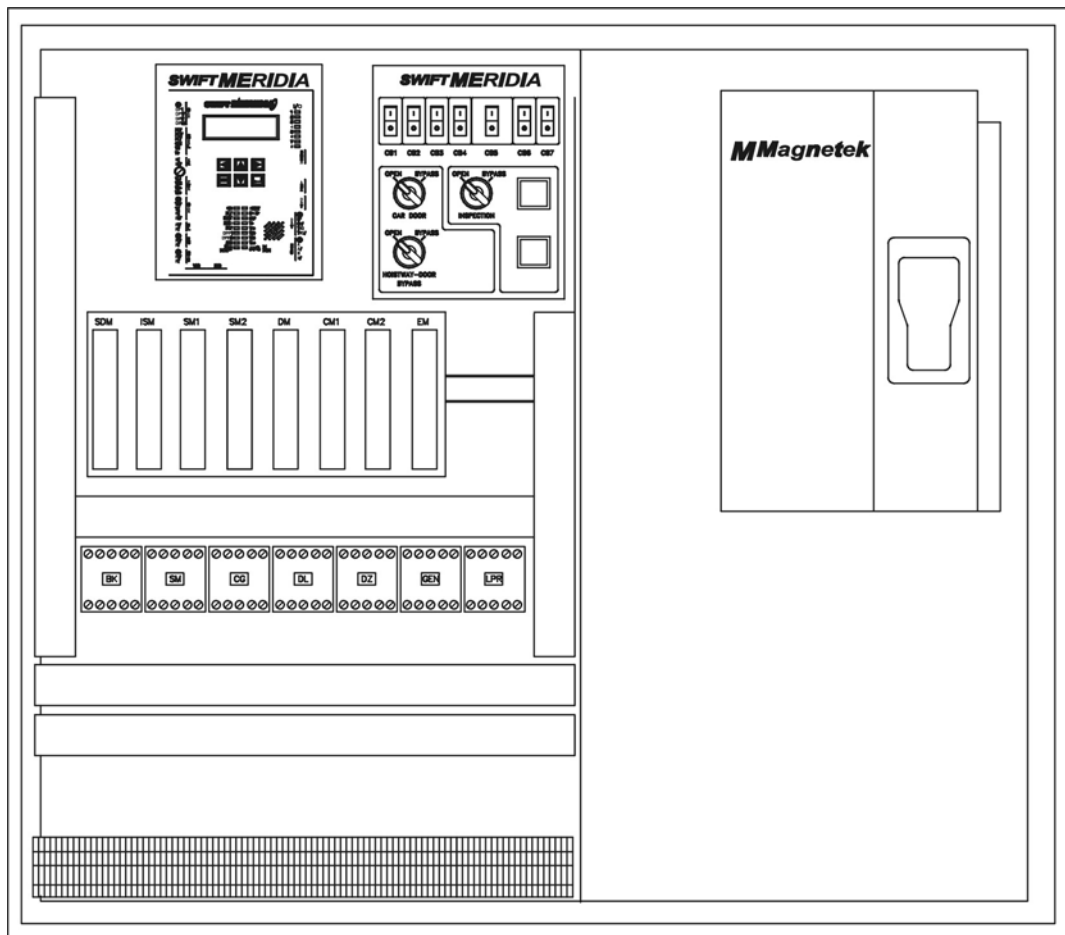

Figure 1-1
**Controller.** The *Meridia* is a front access designed controller. This controller is a RETMA enclosure 45" wide, 18" deep and 34" tall. The doors are hinged to swing open and they are also removable. [See Figure 1-1.]